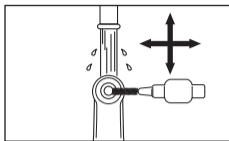

Fig. 13
- 2 Clean around the bur insertion hole for 15 seconds or more, using an interdental brush (wire thickness 0.7mm) that conforms to size 4 in ISO 16409. (Fig. 13)